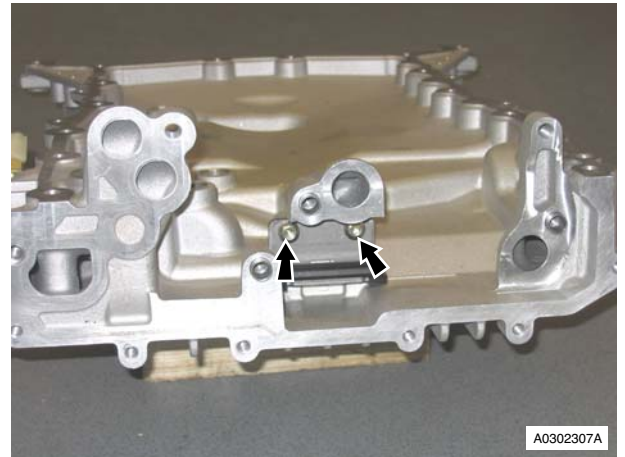

Figure 9
- Remove Torx screws (x2) that attach the oil pump(s) chain guide, remove chain guide (refer to Figure 9).